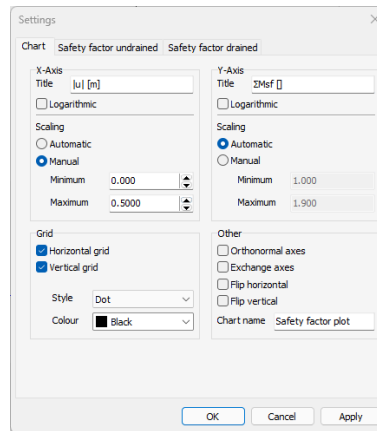

Figure 2-13: The Chart tabsheet in the Settings window
12. In the **Chart** tabsheet shown in Figure 2-13 \(p. 51\), set the scaling of the x-axis to **Manual** and set the value of **Maximum** to 0.5: